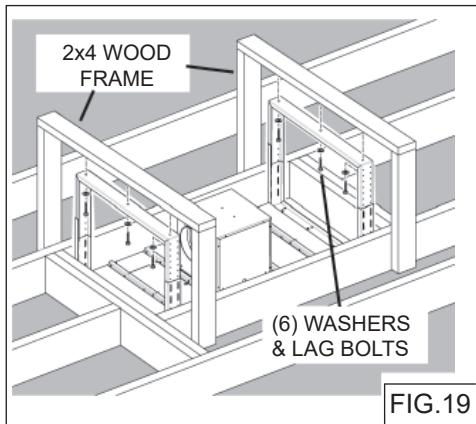

FIG.19
- 4. Secure each support frame to the wooden hood support frame using (6) 6 x 60 mm lag bolts and washers provided. Fig. 19.